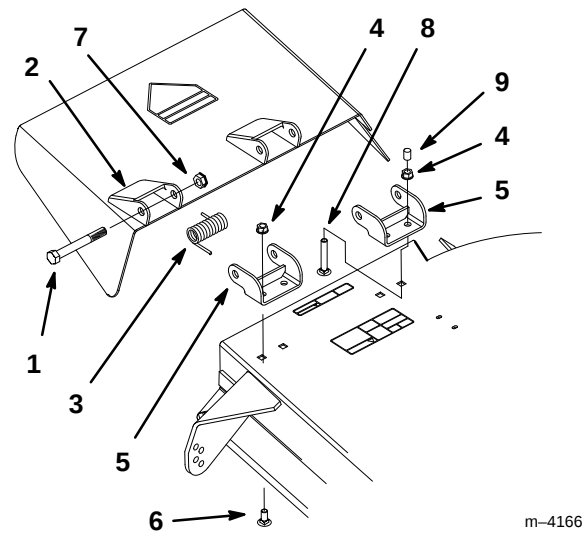

Figure 53
1. Remove the locknuts, bolts and springs holding the deflector mounts to the pivot brackets (Fig. 53).
2. If the pivot brackets need to be replaced, remove the carriage bolts, cone locknuts and cap holding the old brackets to the top of the discharge opening, then install the replacement pivot brackets. Make sure the carriage bolt heads are on the inside of the cutting unit (Fig. 53).
3. Install the deflector mounts onto the pivot brackets with the bolts, springs and locknuts. Make sure the straight ends of the springs are positioned between the deflector mounts and the grass deflector (Fig. 53).
4. Tighten the locknuts until they contact the pivot brackets and install cap (Fig. 53).